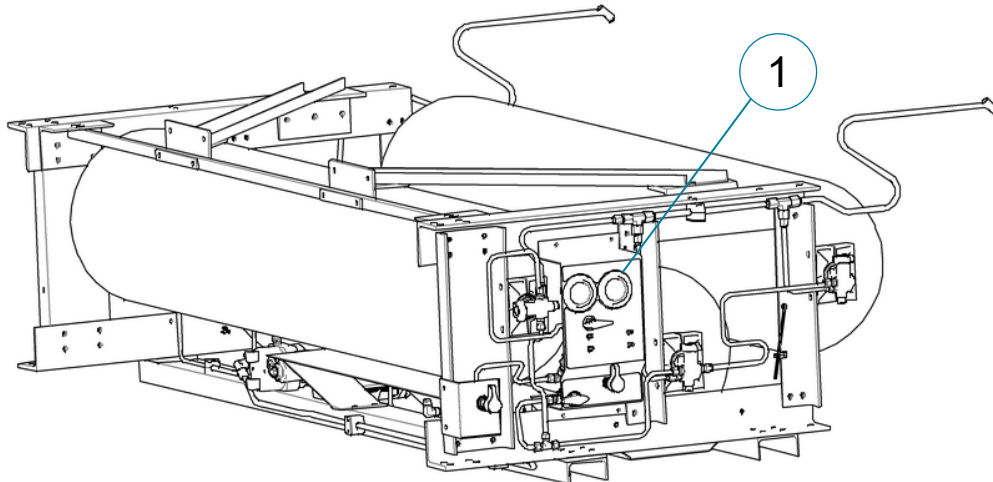

Figure 43. BTC system with integral FMM. Bleed valve (not visible) is installed in a manifold behind the control panel (1).
- A. The bleed valve may be mounted in the manifold or the HP filter in a box type FMM. *Figure 43.*